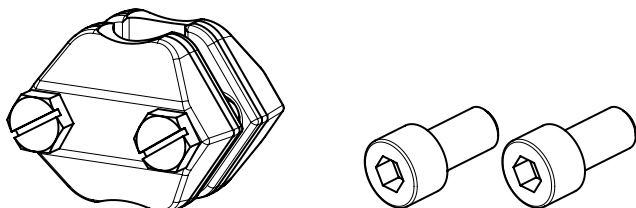

Fig. 13: Mounting kit V2001
5. Extend the actuator stem until the actuator stem (3) rests on the plug stem (5).
6. Position the two stem connector clamps (see Fig. 13) from the V2001 mounting kit and tighten.